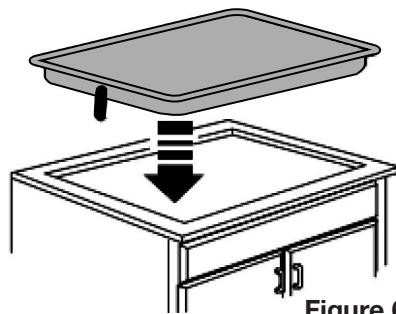

Figure 6
- 2 After the foam gasket has been affixed, place the cooktop into the countertop (see Figure 6).